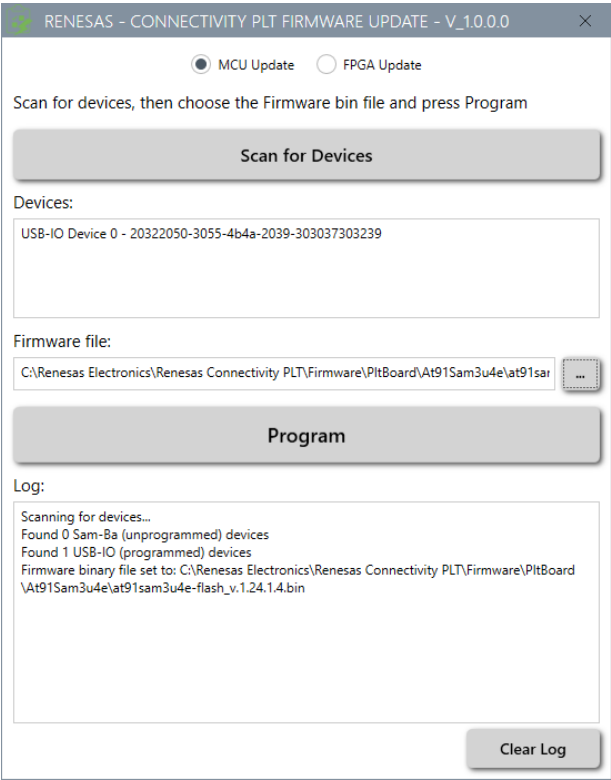
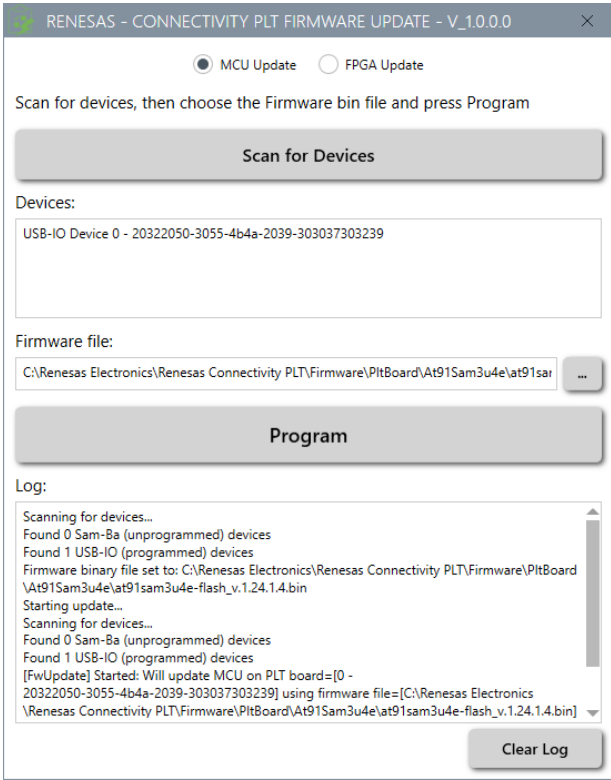

Figure 134. Firmware update - .bin file loading
Figure 135. Firmware update - Programing
4. Click **Program**. See Figure 134 and Figure 135.